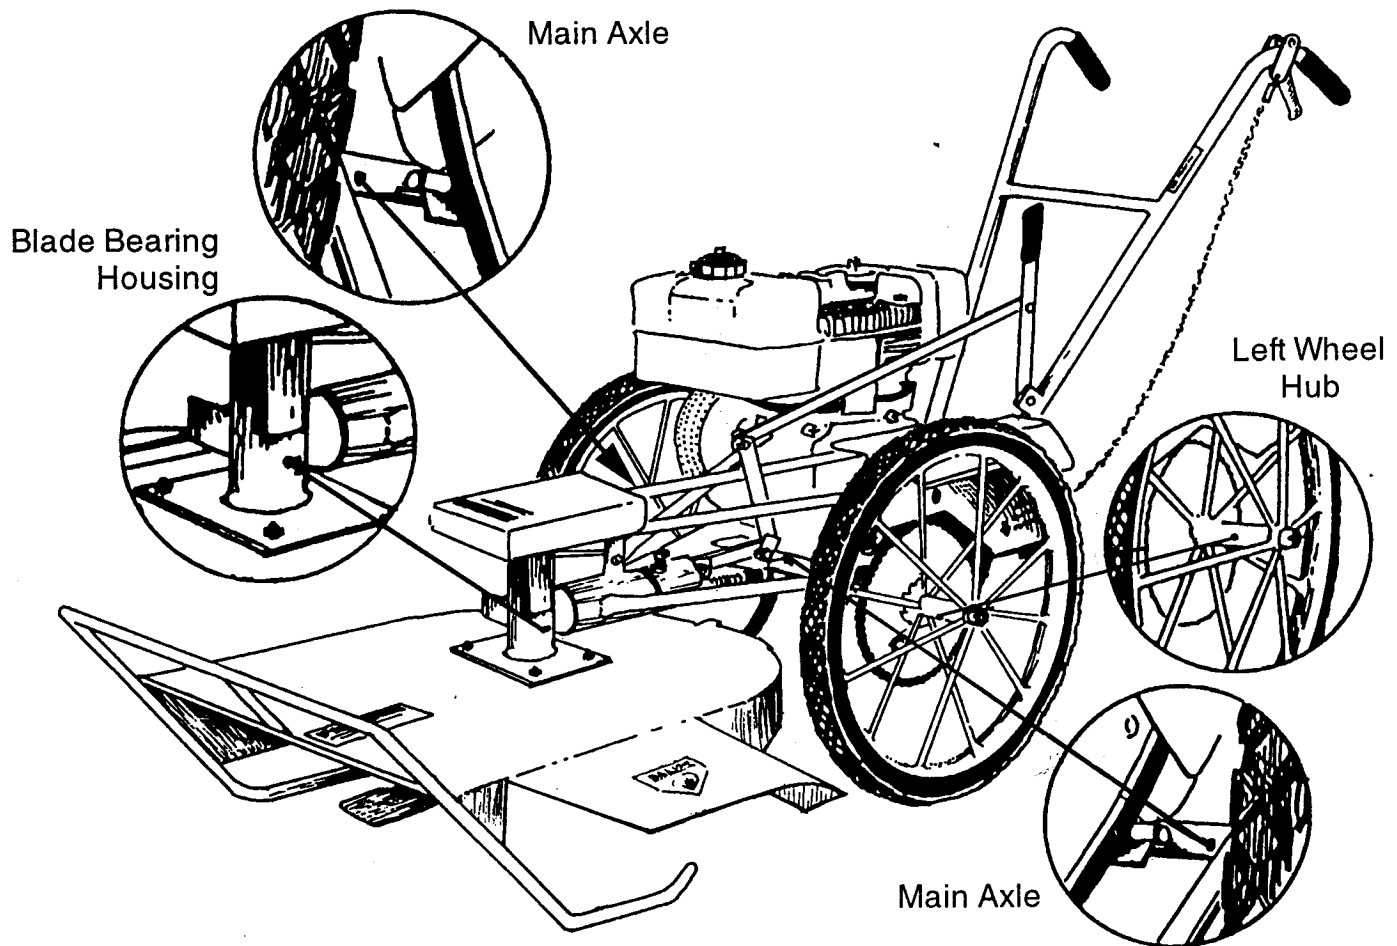

Figure 10
- There are four grease zerks on your DR® FIELD and BRUSH MOWER: Two on the main axle housing, one on the left wheel hub and one on the blade bearing housing (*Figure 10*).